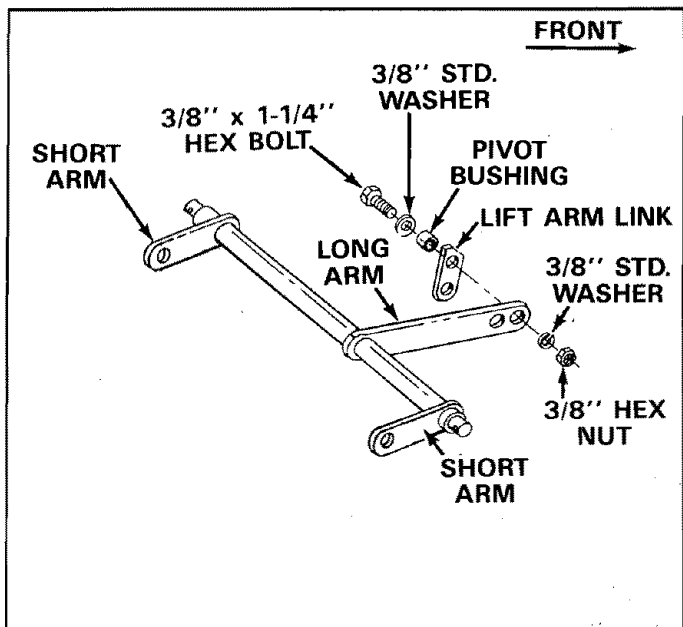

FIGURE 17
18. Pre-assembly lift arm link to inside of long arm on lift assembly. See figure 17.
Lift assembly must be positioned as shown with long arm toward front and off center to the right. See figure 17.
19. Assemble one 3/8" x 1-1/4" hex bolt through 3/8" flat washer, through pivot bushing, through large hole in lift arm link (near angle end), and through hole in long arm nearest the end. Secure with one 3/8" lock washer and one 3/8" hex nut on outside. See figure 17. **NOTE:** Lift arm link must pivot freely.
Lift arm link must be positioned as shown in figures 17 and 18.